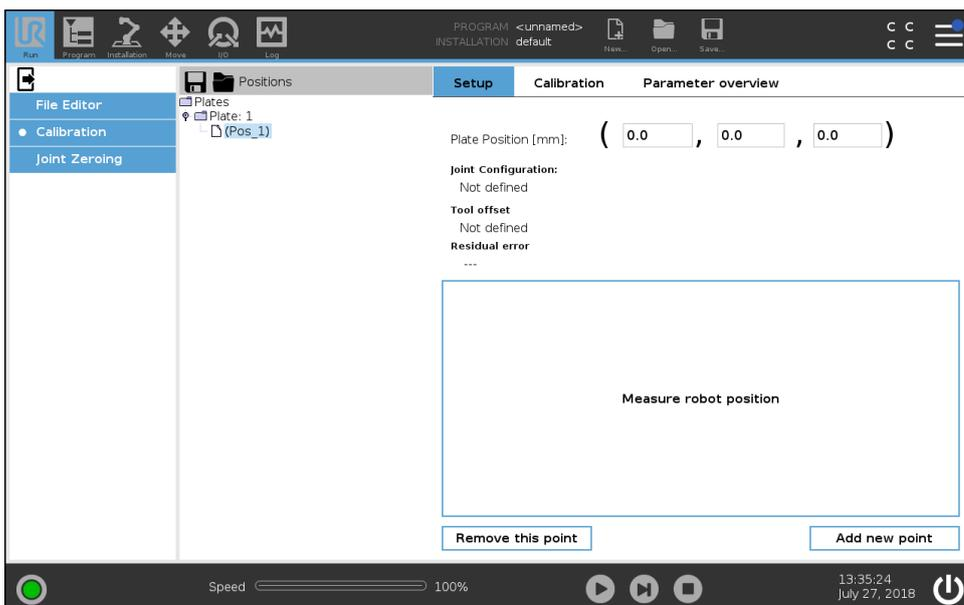

Figure 1.6: The property screen for the selected position.
- (7) Tap **Measure robot position**
- (8) Once the first position is defined, tap **Add new point** to add a second position, (see Figure 1.6). You can add several plate positions in this manner. A full calibration must include at least 15 positions. Tap **Remove this point** to remove a position from the Plate Tree, (see Figure 1.6).
- (9) Once all positions are added to the Plate Tree, tap **Calibration** and select **Make Calibration**, (see Figure 1.6).
To pinpoint the source for the maximum error, each position's contribution to the residual error is displayed in the position property screens, (see Figure 1.6).